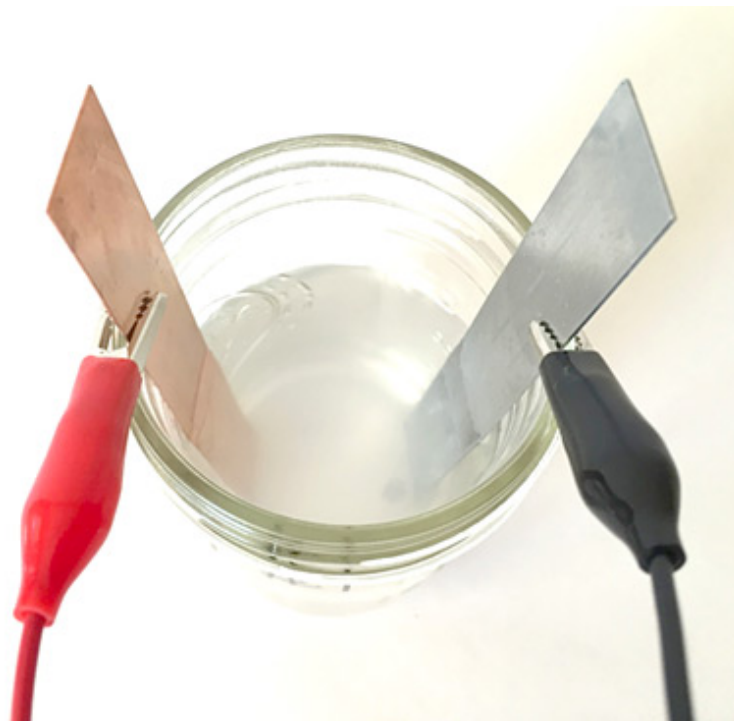

Figure 3. Use the clips of the alligator cables to attach the electrodes to the cup or jar wall to hold them in place.
- a. Take one red and one green alligator clip cable from the Veggie Power Kit and connect one end of the green alligator cable to the zinc anode. Use the clip to attach the electrode to the cup wall, as shown in Figure 3. *Note:* Figure 3 shows a black alligator clip. Your kit may come with a green alligator clip instead of black. The colors of the cables are just used for convenience and color-coding circuits, but there is no practical difference between wires/cables with different colors.